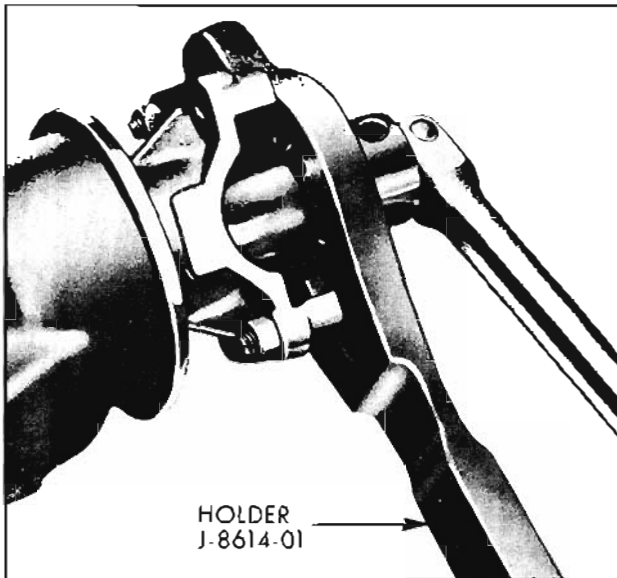

Fig. 10-129 Installing Pinion Nut
5. Install pinion washer and nut. Hold companion flange with Holder J-8614-10. While intermittently rotating pinion to seat bearings, tighten pinion nut until end play begins to be taken up. (Fig. 10-129)